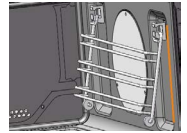

Fig. 3
Fit the appliance into its surround (beneath a worktop or above another appliance in a tall housing) by inserting screws and plastic covers into the 4 holes (A - fig.3) that can be seen in the frame of the oven when the door is open.
**THE SIDE SHELF SUPPORTS (FIG.3)**